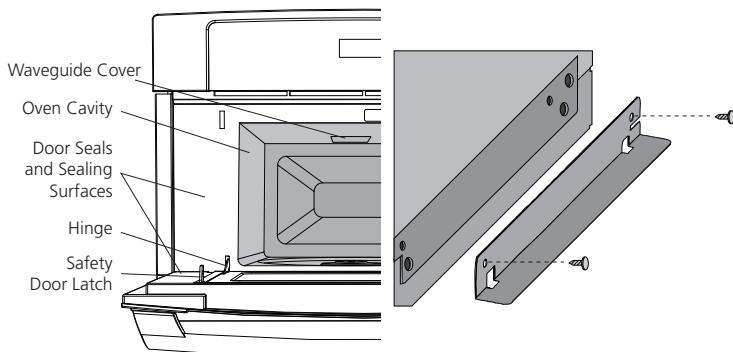

Figure 2A
2. Remove all packing material from inside the oven cavity before connecting the electrical supply to the Microwave Wall Oven. DO NOT REMOVE THE WAVEGUIDE COVER, which is located on the cavity ceiling. See Figure 2A.